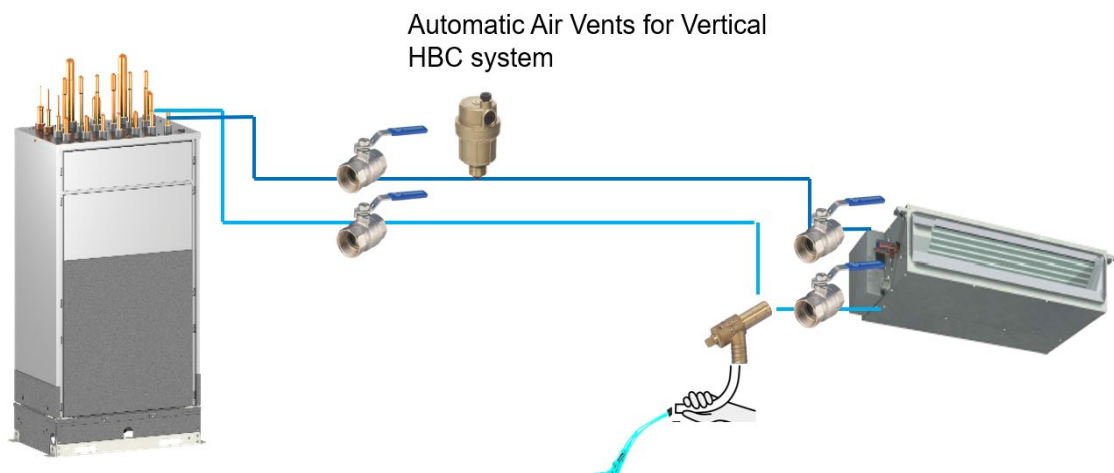

Fig. 3
2. Open the isolation valve of each indoor unit and then manually purge each indoor unit via the external drain cock which is located on the lowest pipe as shown in Figure 3.